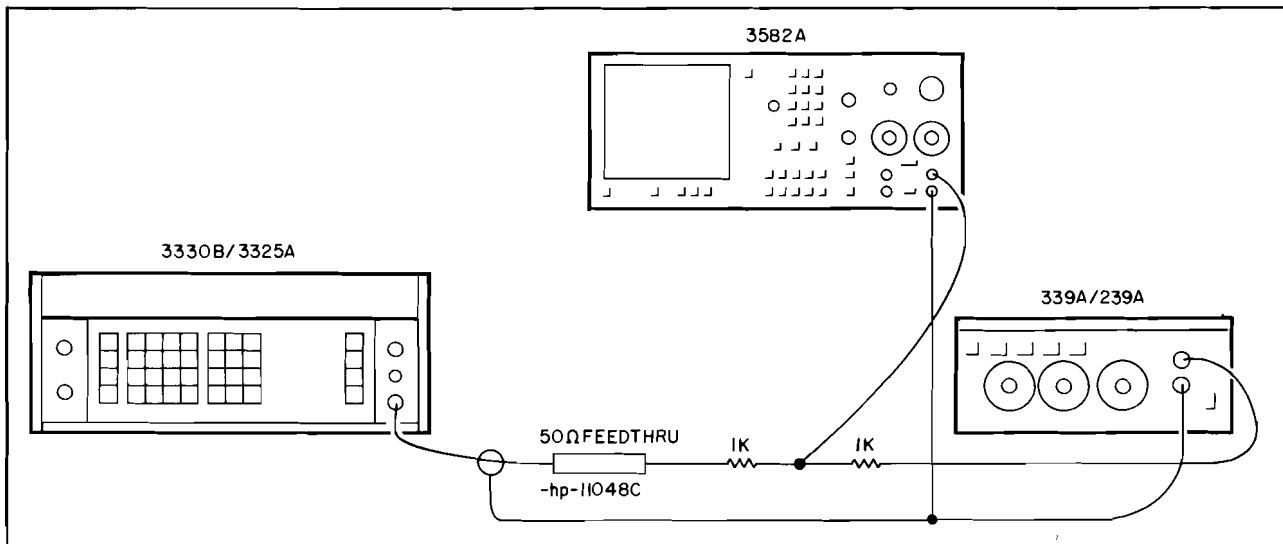
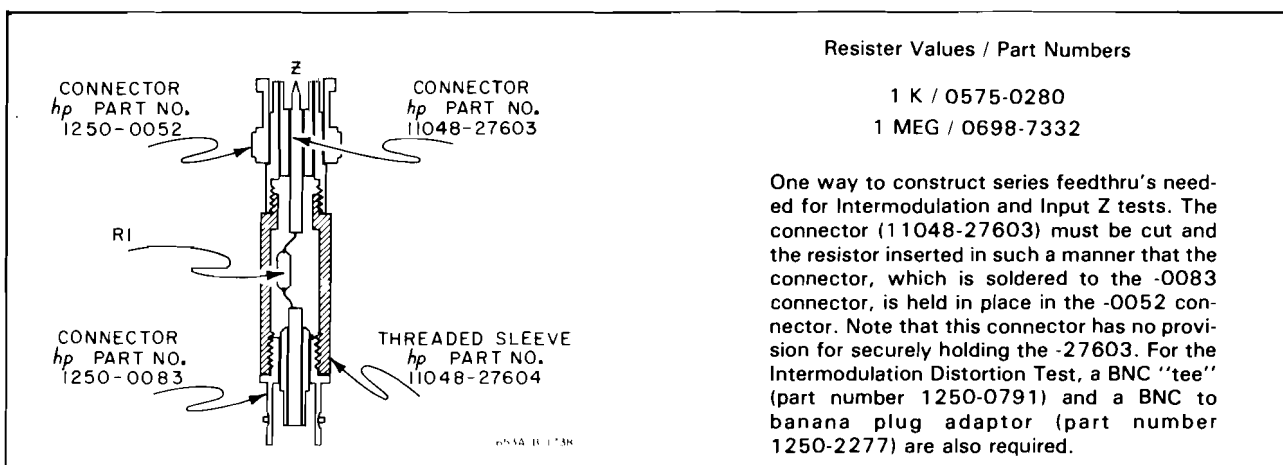

Figure 4-5. Test Set-up Intermodulation Distortion.
Figure 4-6. Constructing A Feedthrough Load.
b. The **Intermodulation Distortion** test requires the use of 1K ohm isolation resistors (see Figure 4-6). A small box with the appropriate connectors works well for this. Note that the 50 ohm termination required for the synthesizer must come before the isolation resistor. (Also see Figure 4-5).
e. The **Input Z** (impedance) test requires a 1 meg series load. This load must come after the 50 ohm termination required for the synthesizer. (See Figure 4-5.)